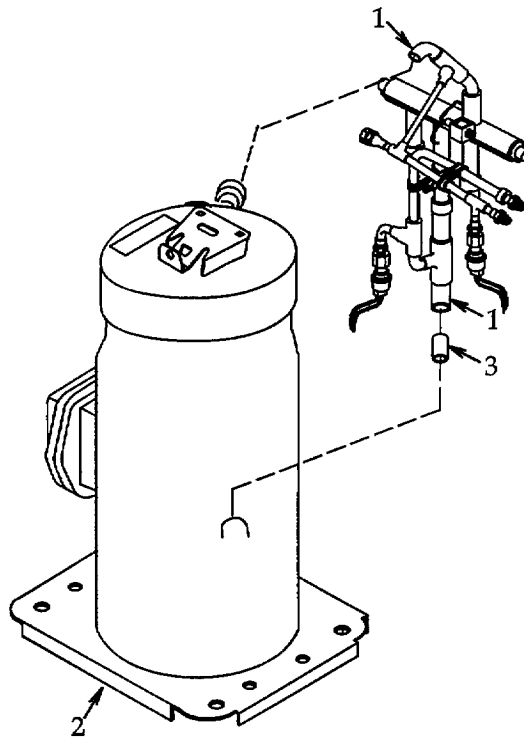

Figure 5-16. Compressor.
a. **Removal.** See figure 5-16.
- (1) Remove compressor and reversing valve assembly per paragraph 5.17.
- (2) Remove insulation from tubing as necessary.
- (3) Purge the tubing per paragraph 5.5 then de-braze two connections (1) per paragraph 5.6 to disconnect compressor (2) from reversing valve assembly. Lower connection contains a bushing (3), be sure bushing does not remain in compressor if it is to be reused.
- (4) Drain refrigerant oil from compressor per paragraph 5.6.A.
b. **Installation.** See figure 5-16.